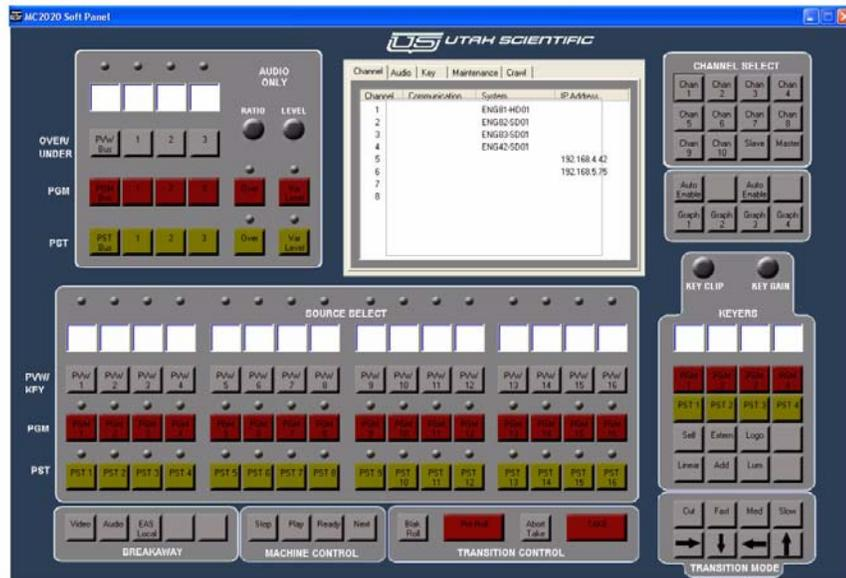

FIGURE 2 - Default Channel view
2. Navigate to the mc-gui_v1.09 folder from the setup above and locate the file called SMCP.exe and double click it. You will see the application come up on the computer as seen in figure 2 below. **Note:** Minimum desktop resolution should be set to 1280x800. **Note:** The GUI will launch with default channel connections until it is configured to correspond with desired channels.